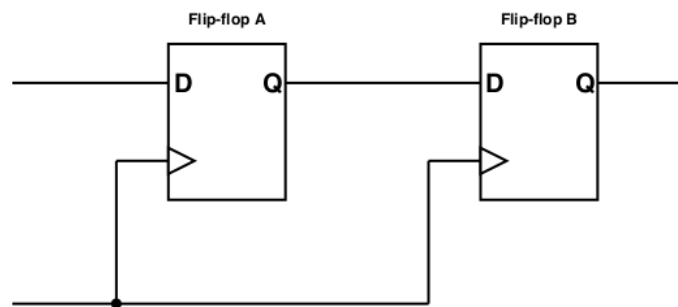

Figure 1: Flip-flops
- d) Define the **hold time** of a D-type flip-flop. In the flip-flop circuit shown in figure 1, what *constraint(s)* are there on the hold time of flip-flop A? (2 marks)